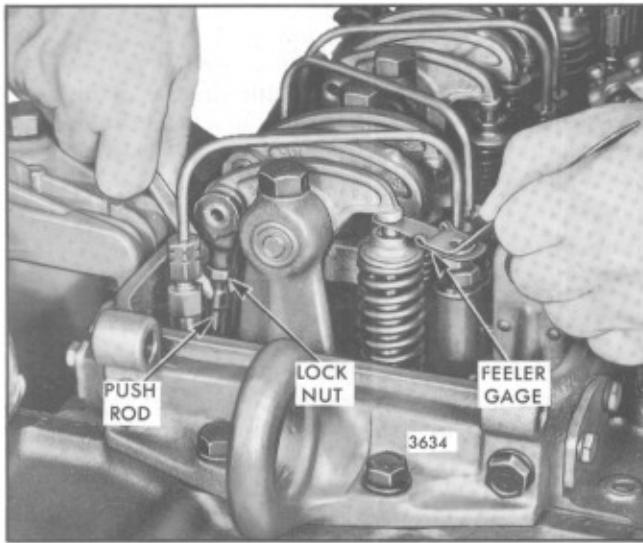

Fig. 1 - Adjusting Valve Clearance
5. Place a .012" feeler gage, tool J 9708-01, between the valve stem and the rocker arm (Fig. 1). Adjust the push rod to obtain a smooth "pull" on the feeler gage.